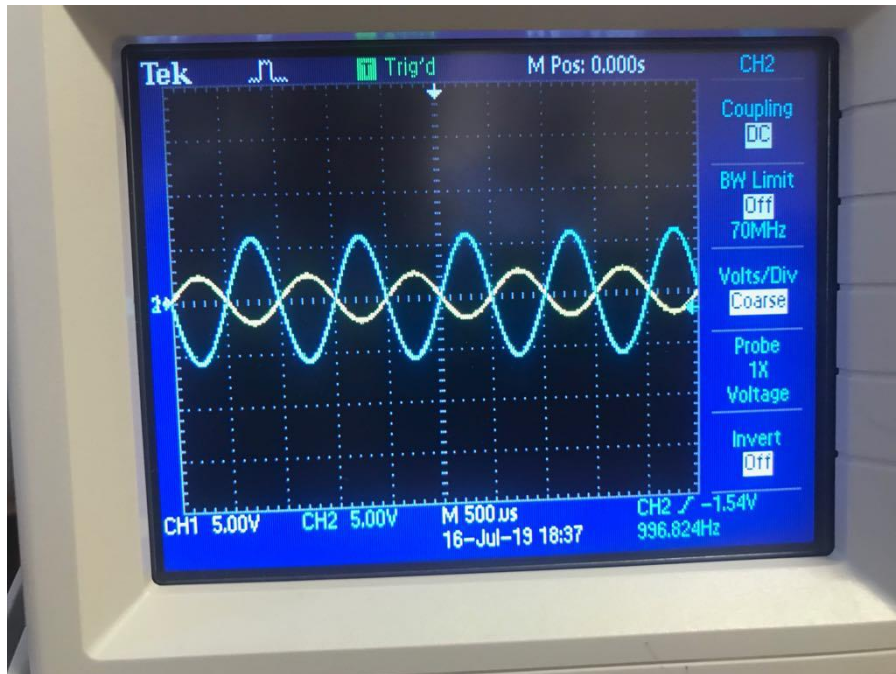

Figure 6
3. The output of the function generator (the input to the circuit) was increased until the Figure 6 was occurred.
It could be seen from Figure 6, that the output is a inverted-scaled replica of the input, and that means that there is no distortion and the amplifier is working in the total  $360^\circ$  (the bias point is chosen such that it meets the maximum symmetrical swing case). And so, **the class of the amplifier is A.**